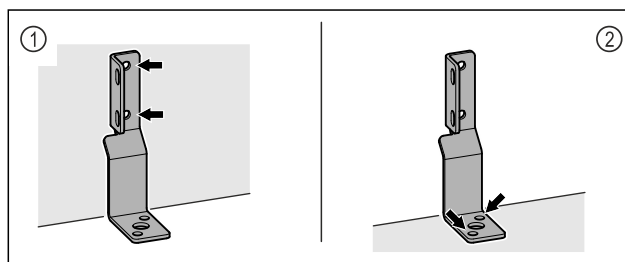

Fig. 6
- ▶ Attach bracket to wall Fig. 6 (1) or floor Fig. 6 (2).